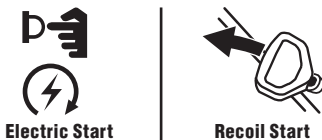

Figure 7
**NOTE:** The following starting instructions are for several different types of engines. In order to locate the instructions that apply to your engine, first determine what type of starter you have (Figure 7). If you have an electric starter, see Engines With Electric Starters. If you have a manual recoil starter, see Engines with Recoil Starters later in this section.